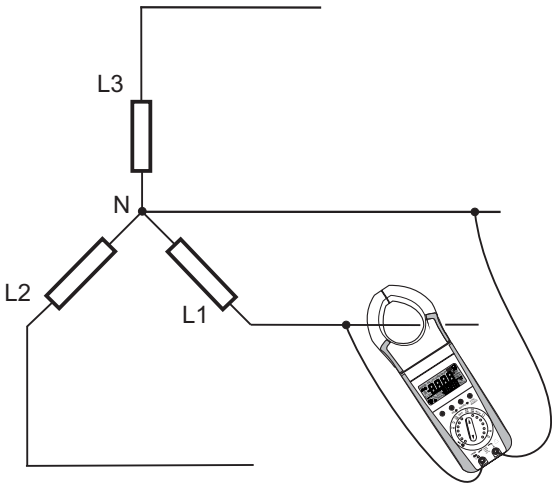

Fig 11.2.1 Connection diagram for 3ph4w balance load
- 2) Meter will show L1-n and I -1 on display. Connect meter to phase 1 as shown in fig 11.2.1.